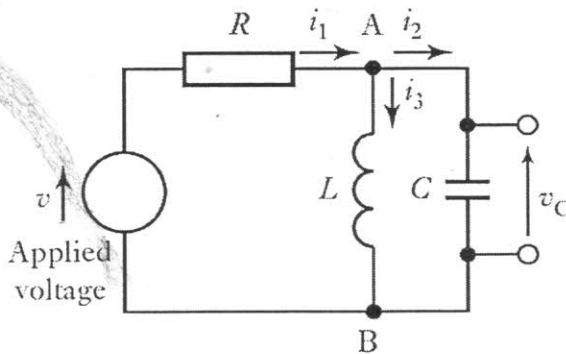

Fig. 2 (a).
2. a) Derive the relationship between the potential difference across the resistor capacitor and the input ' V ' for the circuit shown in the Fig. 2(a).